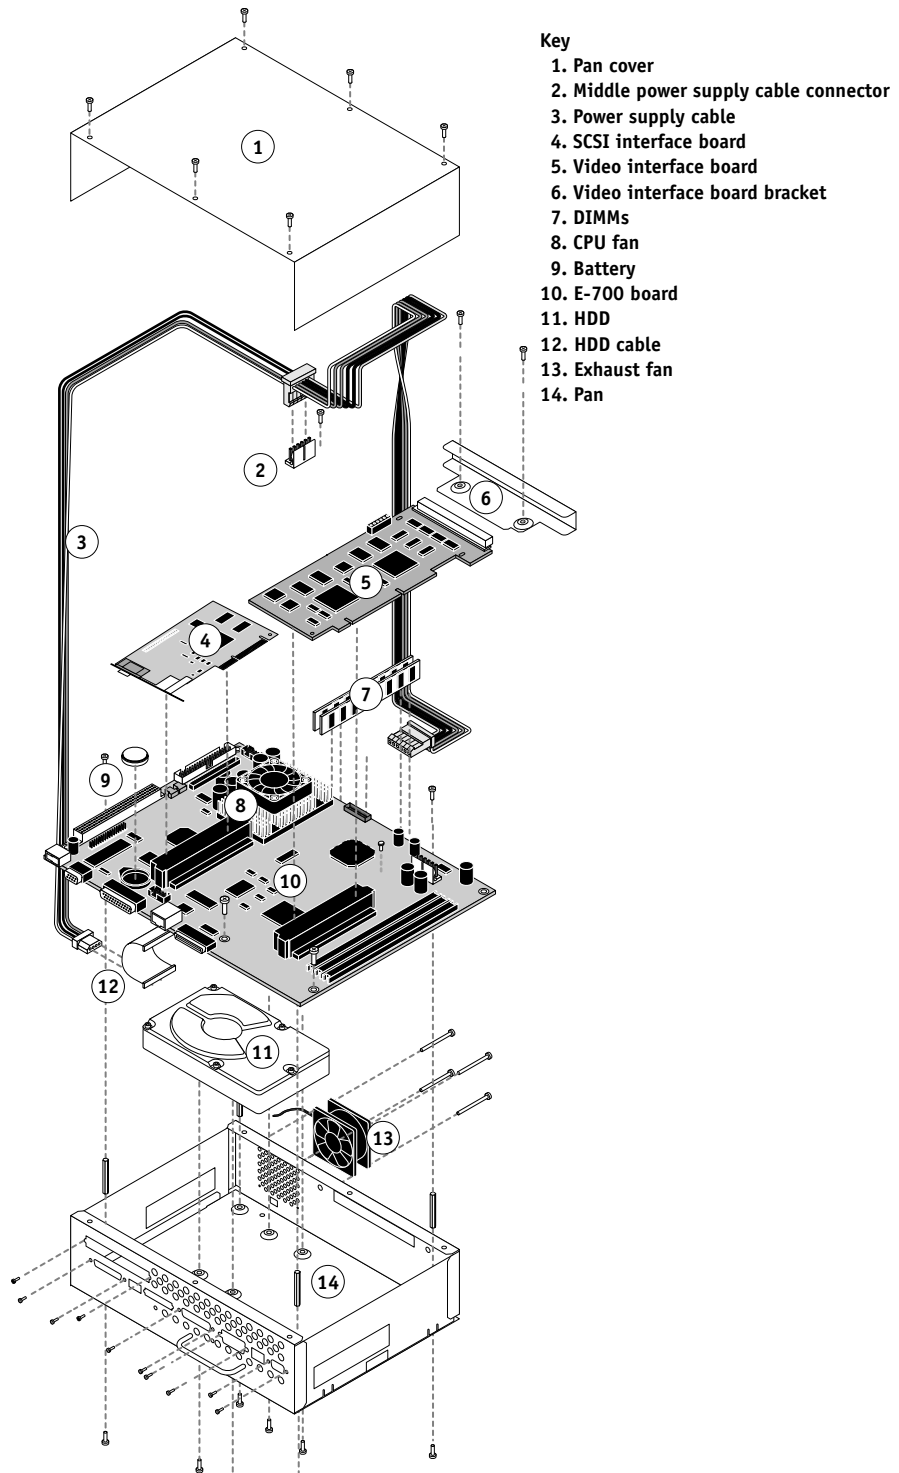

FIGURE 4-1 Exploded view of E-700
See Figure 4-1 on page 4-2 for an overview of E-700 board components. Replacement parts are available from your authorized service representative.
4. Remove the connector bracket from the pan (see Figure 4-1 on page 4-2). Set the two screws and the connector bracket aside so you can replace them later.
5. Remove the support bracket from the pan (see Figure 4-1 on page 4-2). Set the two screws and the support bracket aside so you can replace them later.